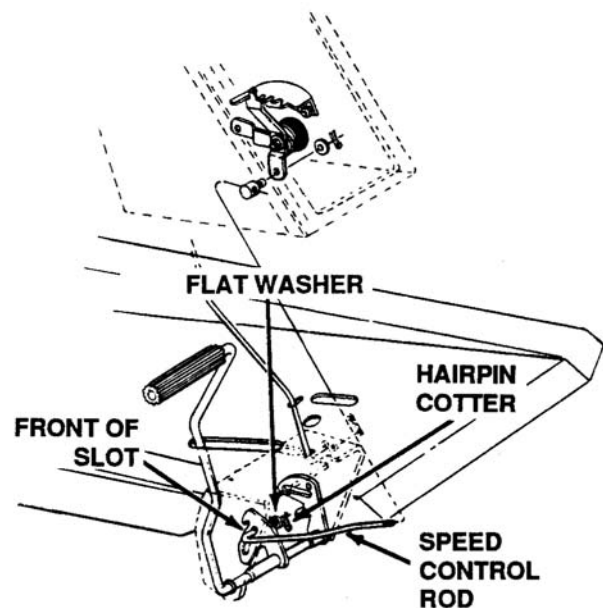

Figure 7-10. Adjusting Speed Control Lever
7. Disconnect the speed control rod by removing the hairpin cotter and flat washer. See Figure 7-10.